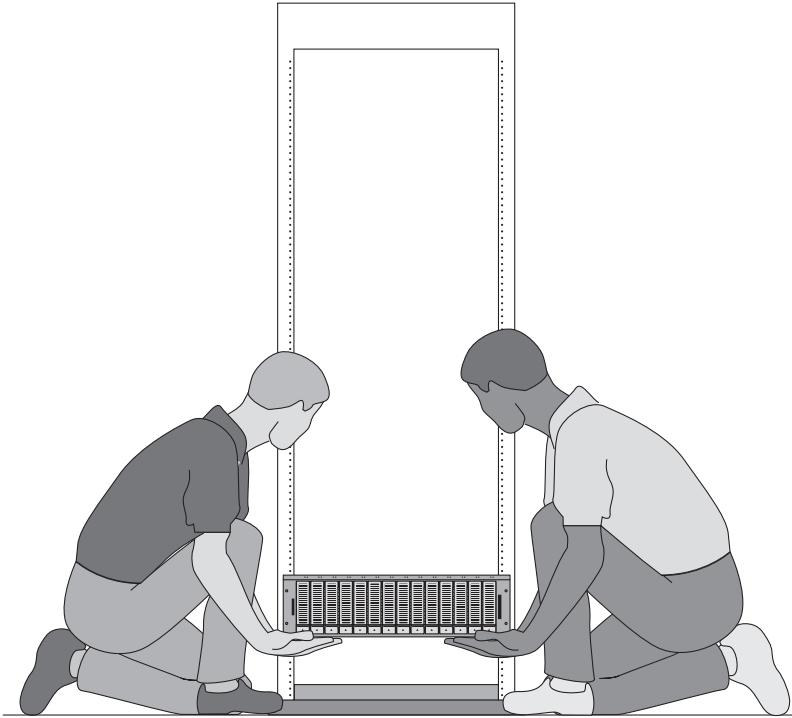

FIGURE 7 Positioning the Array Module in the Telco 2-Post Rack
2. Using two people, one at each side of the array module, carefully lift and rest the module on the bottom ledge of the left and right rails (FIGURE 7).